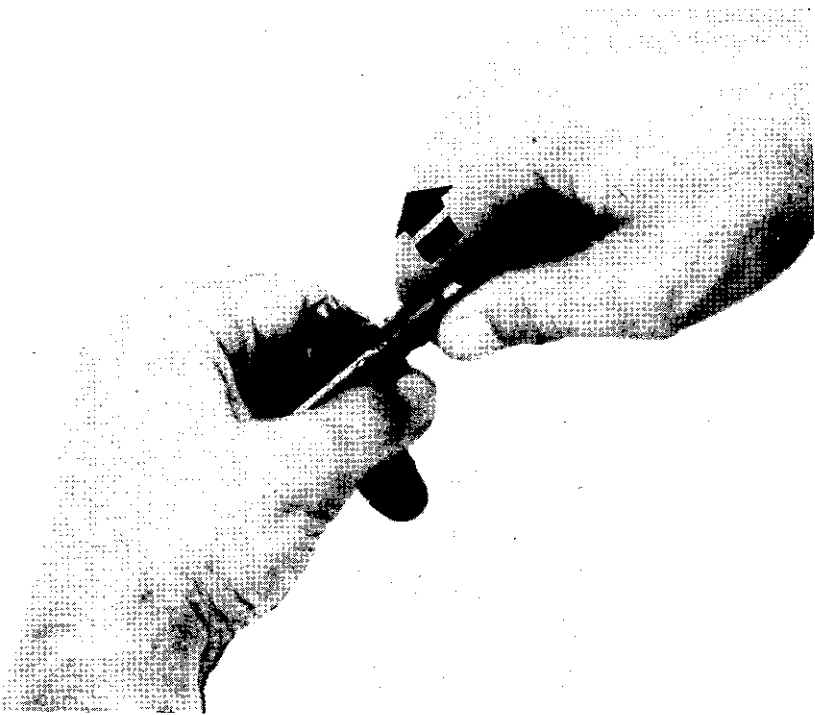

Figure 13. Unseating extractor (bolt out of rifle).
a. Bolt Out of Rifle. Holding the combination tool as shown in figure 13, push it into the face of the bolt with the screwdriver blade beneath the extractor. Turn the tool clockwise, maintaining pressure against the ejector and spring. Lift the extractor from the bolt. When the extractor is clear, allow the ejector to slowly push the combination tool away from the face of the bolt until it is no longer under spring pressure. Remove the ejector